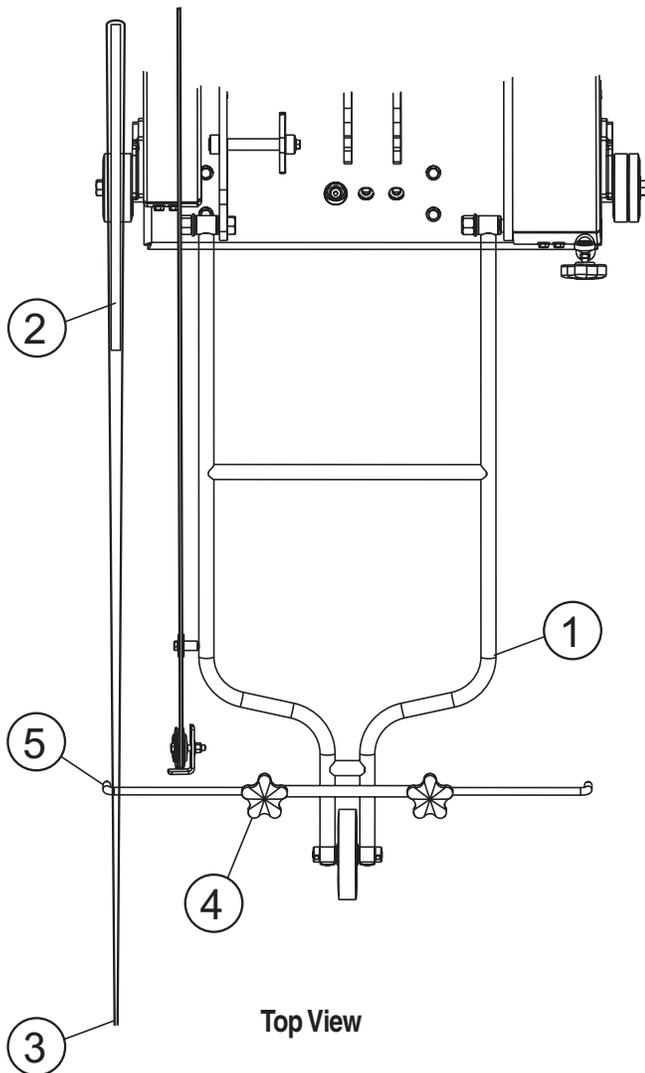

Figure 28. Adjusting the Pointer Assembly
- Using 10-12 ft. (3-3.7 meters) of stringline, divide the length of the string in half and slide the string into one of the slots or gullets on the backside of the blade, (as viewed standing in front of the pointer). (Item 2, Figure 28) Hold both ends of the string in one hand and pull the string taut. (Item 3) Move your hand from side to side until both strings are touching both sides of the blade.